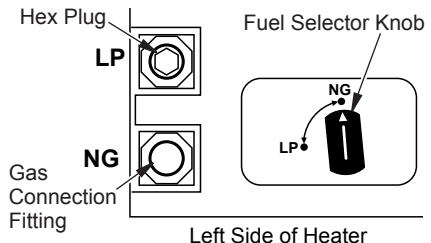

Figure 10 - Settings for Natural Gas Selection
1. Remove 2 screws from cover plate located on left side of heater (see Figure 10).
2. For NATURAL GAS, press in knob using a flat screwdriver with a blade with thickness of a quarter and turn knob clockwise until the knob locks into the NG position (see Figure 10). Fuel selection device must be locked in the NG position. Do not operate heater between locked positions!
4. Remove hex plug (with wrench provided) from natural gas inlet of regulator (see Figure 10, page 13). Install hex plug into LP inlet of regulator. Install gas line into NG inlet of regulator. Use thread sealant to assure there are no leaks.